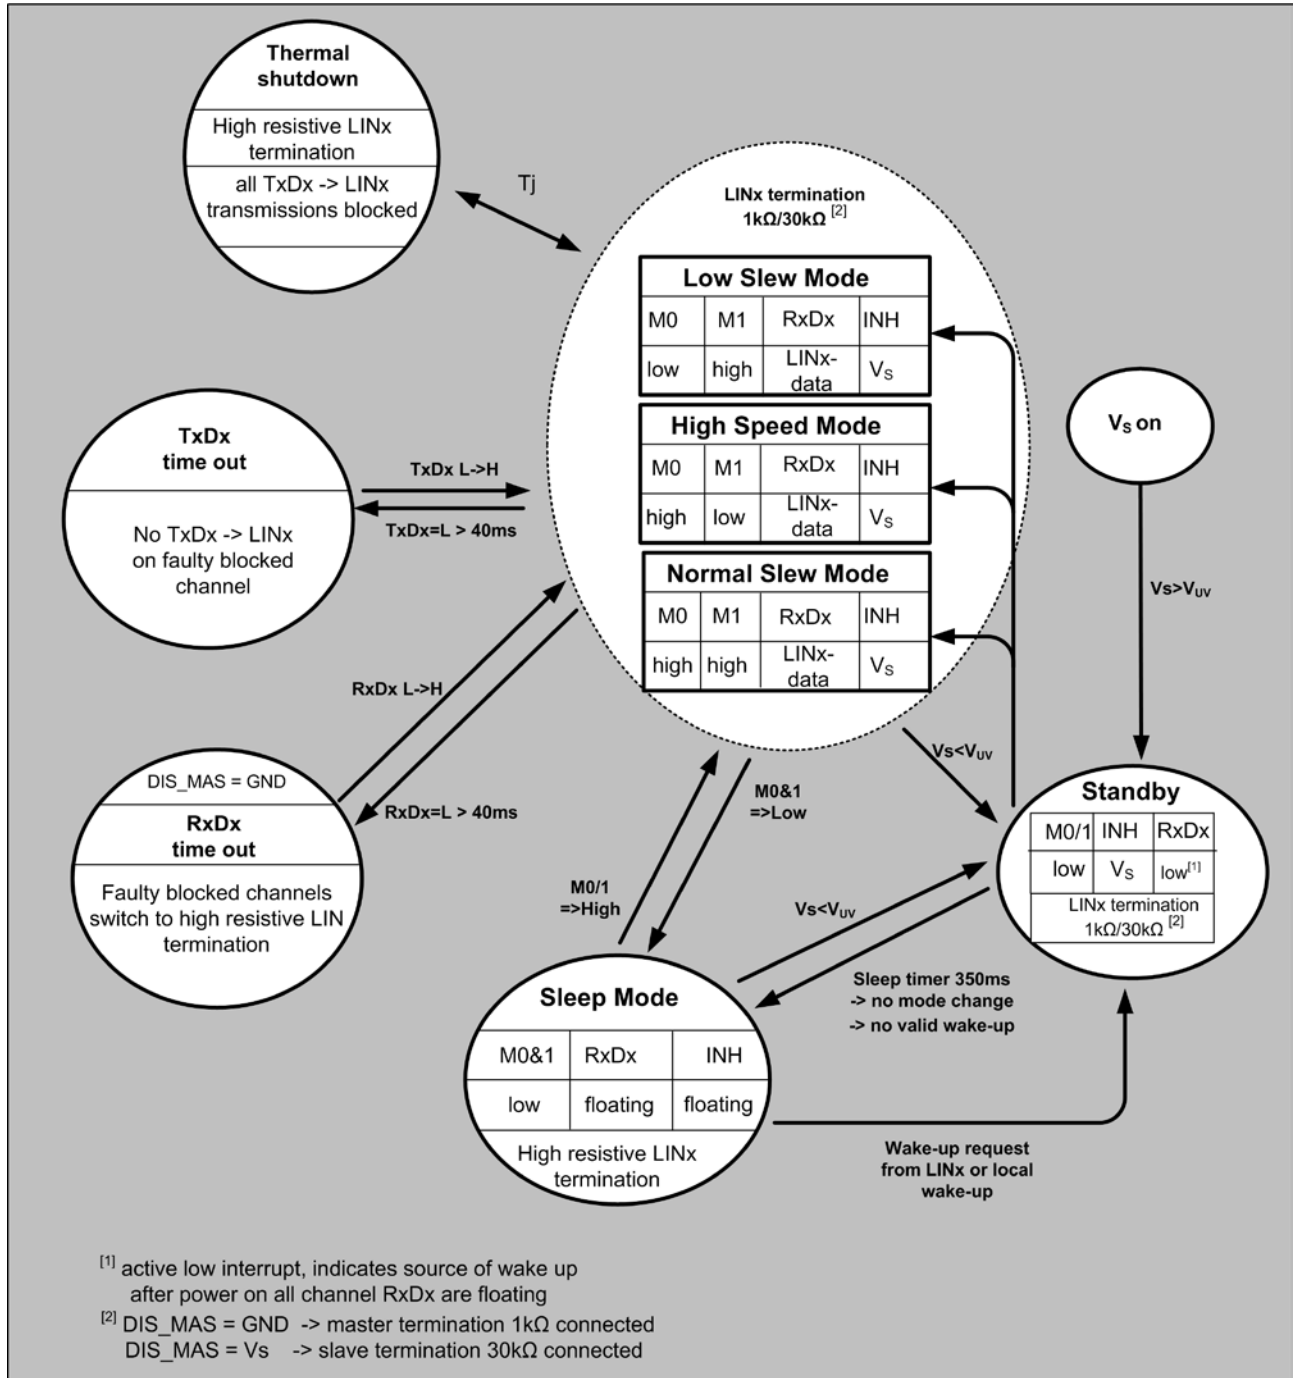

Figure 5: State Diagram of the MLX80004/2
- [4] in accordance to SAE J2602, see Figure 5